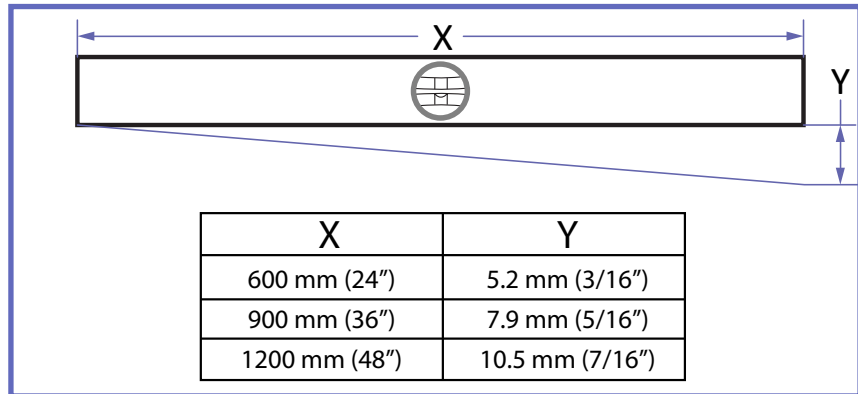

Fig. 2
- Floor must have a slope of less than 0.5° . See “Fig. 2” to determine the floor slope. Use a level or contact a contractor if unsure of floor slope.